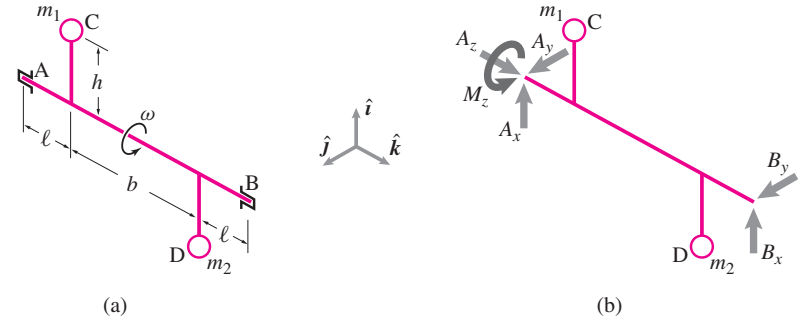

Figure 20.60: (a) A simple line diagram of the system. (b) Free-Body Diagram of the system.
1. A simple line sketch and the free-body diagram of the system are shown in Fig. 20.60. The linear momentum balance ($\sum \vec{F} = m\vec{a}$) for the system gives: